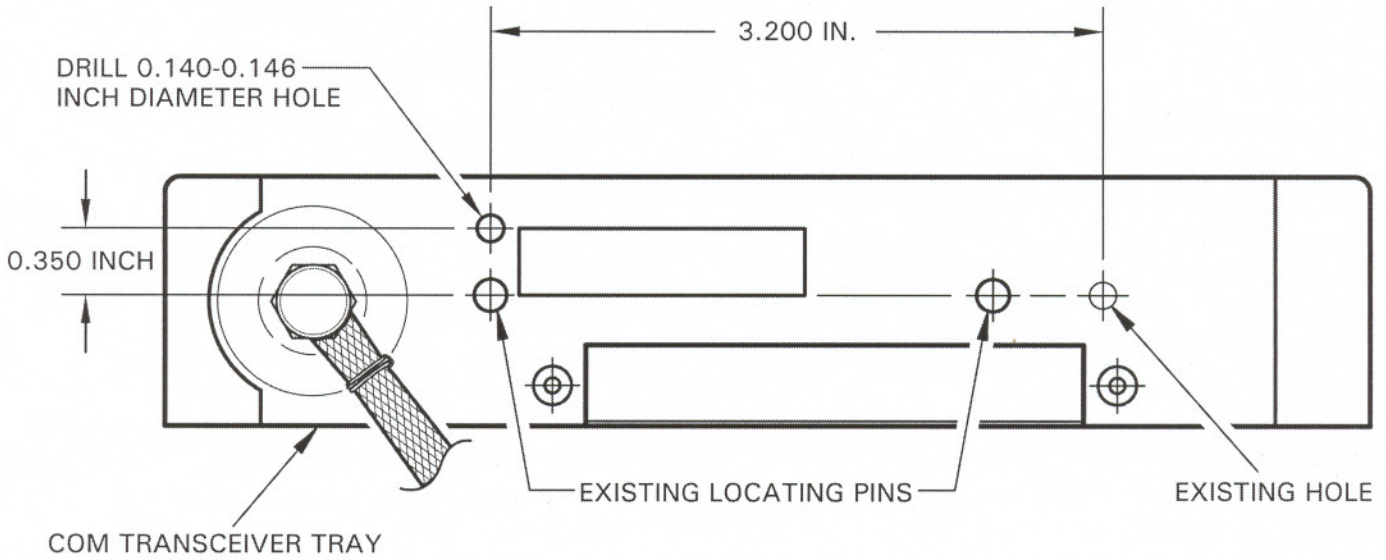

FIGURE 3 TRAY MODIFICATION
6. Refer to Figure 3. Drill 0.140/0.146 inch diameter mounting hole in back of tray as shown. Deburr hole. Remove all drilling debris.